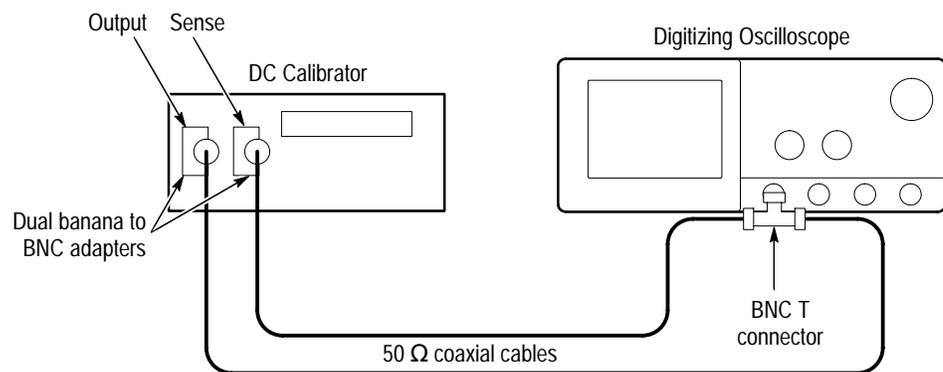

Figure 4–5: Initial test hookup
- d. *Measure the test signal:* Align the active cursor over the waveform by rotating the general purpose knob. Ignore the other cursor. See Figure 4–4.
- e. Read the measurement results at the absolute (@:) cursor readout, not the delta (Δ:) readout on screen. That is, read the offset relative to the ground reference. See Figure 4–4.
- Connect the output of a DC calibration generator through a dual-banana connector followed by a 50  $\Omega$  precision coaxial cable to one side of a BNC T connector. See Figure 4–5.
- Connect the Sense output of the generator through a second dual-banana connector followed by a 50  $\Omega$  precision coaxial cable to the other side of the BNC T connector. Now connect the BNC T connector to **CH 1**. See Figure 4–5.